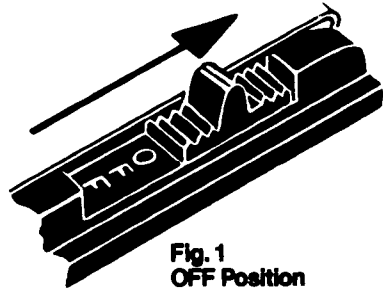
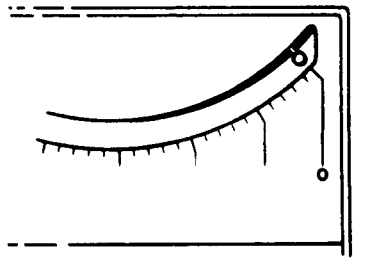

Fig. 1
Fig. 2
With chart drive switch in "OFF" position (see fig. 1) exposing the word "OFF," check mechanical zero setting of pointer (see fig. 2) before making any electrical connections to the instrument. If adjustments are necessary proceed as follows:
- Apply finger to star wheel and turn until pointer lines up with zero mark at the extreme right of scale. See fig. 2.
- Move chart drive switch to "OFF" position exposing the word "OFF." See fig. 1.
1. Move chart drive switch to "OFF" position exposing the word "OFF." See fig. 1.
4. To remove chart from take-up spindle (D), move the latches away from the take-up spindle. Turn knurled knob on spindle (D) until the slot in the take-up drive pulley at the opposite end of the spindle is lined up with the slot in the side frame of the recorder. Slide the spindle and chart up and out of the slots in the side frames of the recorder. Remove tape from chart and bobbin.
5. To unload chart paper from recorder turn chart drive switch off, exposing the word "OFF". See fig. 1. Follow 4 above. Remove chart from feed shaft (A) and pull paper thru recorder.
1. Chart drive switch must be in "OFF" position (exposing the word "OFF"). See fig. 1.